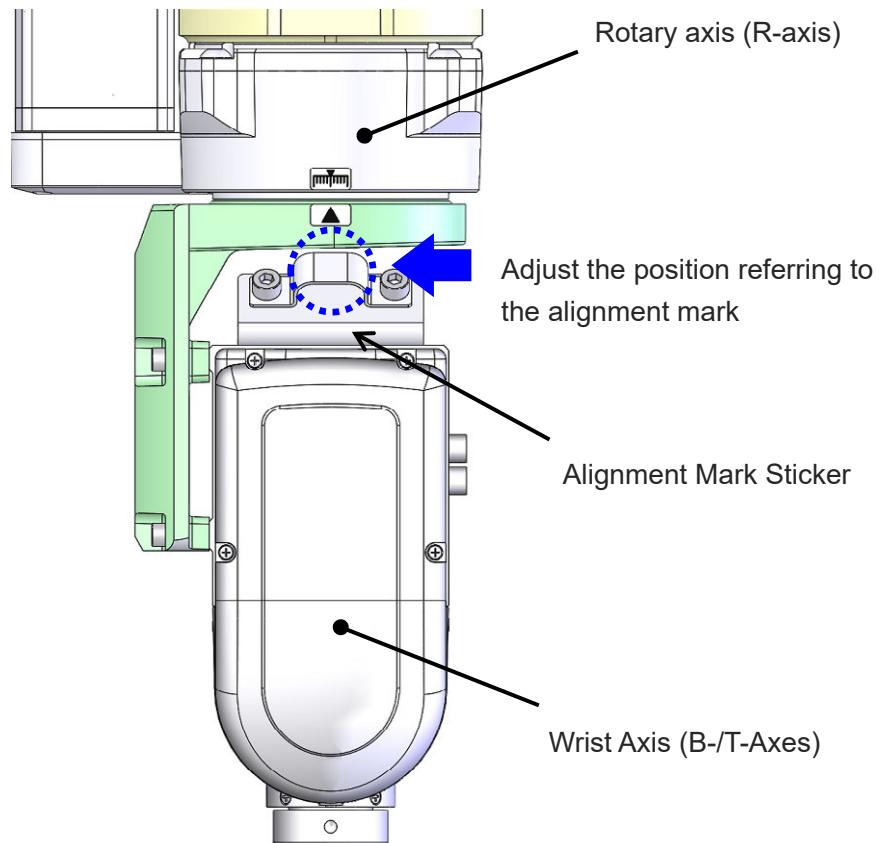
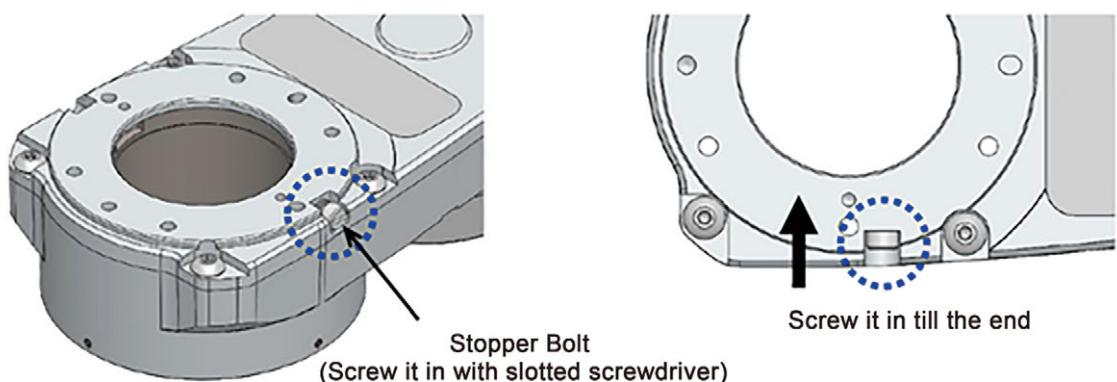

Figure 8.3-10 R-Axis Standard Posture
Figure 8.3-11 R-axis Stopper Bolt Attached
- 4) Conduct emergency stop and brake release, and approach near the standard posture of the R-axis. Refer to Figure 8.3-10 for the standard posture of the R-axis. Attach the stopper bolt at the standard posture (Figure 8.3-11). With the stopper bolt being applied, conduct the brake lock and release the emergency stop, and click “OK” in the confirmation window.